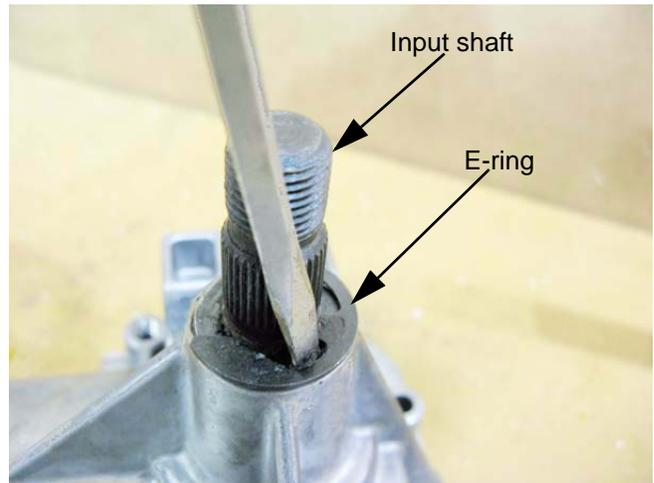

Figure 6.100
- 16b. Use a screwdriver to pry-off the E-ring. See Figure 6.100.